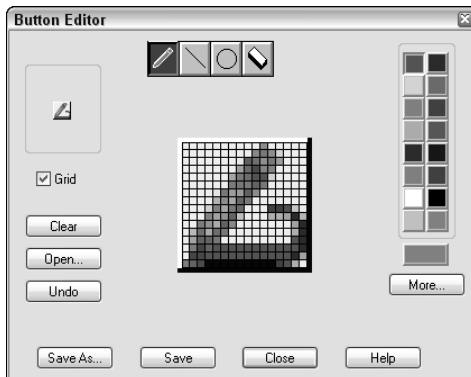

Figure 29-10: You can create a new button in the Button Editor.
16. With the `pline_tenth` button selected, in the Button Image pane, click the PEDIT icon. (It looks similar to the icon in Figure 29-10.) Then choose Edit to open the Button Editor.
17. You want to change the button so that it looks as if a zero-width polyline is being changed to a wider polyline, because that's what the macro does. Click the red color. Choose the Pencil tool (by default, it is already chosen). Click the Grid check box to help you work. Click (or drag) the point of the Pencil tool in each box, using Figure 29-10 as a guide. (Figure 29-10 shows the button in black and white.) When you're done, click Save.